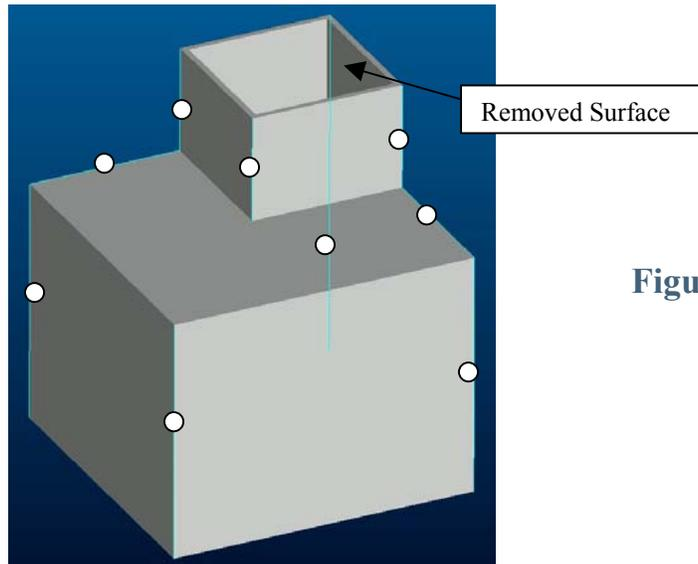

Figure 3
2. Convert the model into a Sheetmetal part by creating a shell from the model. Select **Application, Sheetmetal, Shell** and select the surfaces to remove. See Figure 3.
- Edge Rip** – Select the edges that will be ripped. See Figure 3.
4. Select **Edge Rip, Define, Add** and select the three edges indicated in blue in Figure 3.